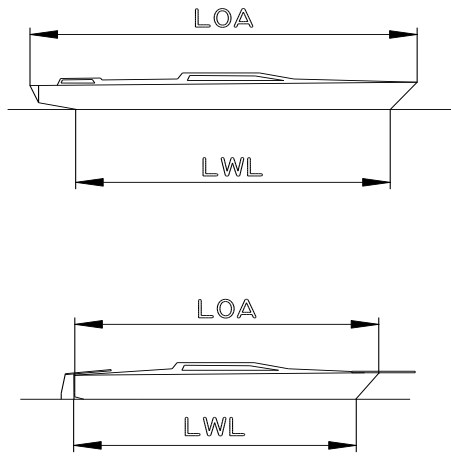

Figure 1
*Length Overall of Hull excluding bowsprit, stern fittings, pulpit, rudder, skeg, etc. (See Figure 1 overleaf)*
*Length along the floatation waterplane from where the stem cuts the water to the centre of the rudder stock, or leading edge of rudder blade if transom hung, or where the hull emerges from the water if this aft of the rudder measurement point (see Figure 1).*